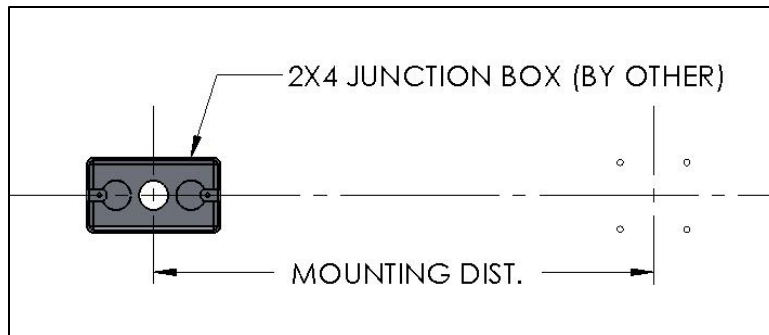

FIG. 6- VIEW SHOWING MOUNTING INFORMATION
1. Measure for the placement of the ANCHOR BRACKET to the right of the J-BOX (see table). as shown in FIG. 6.